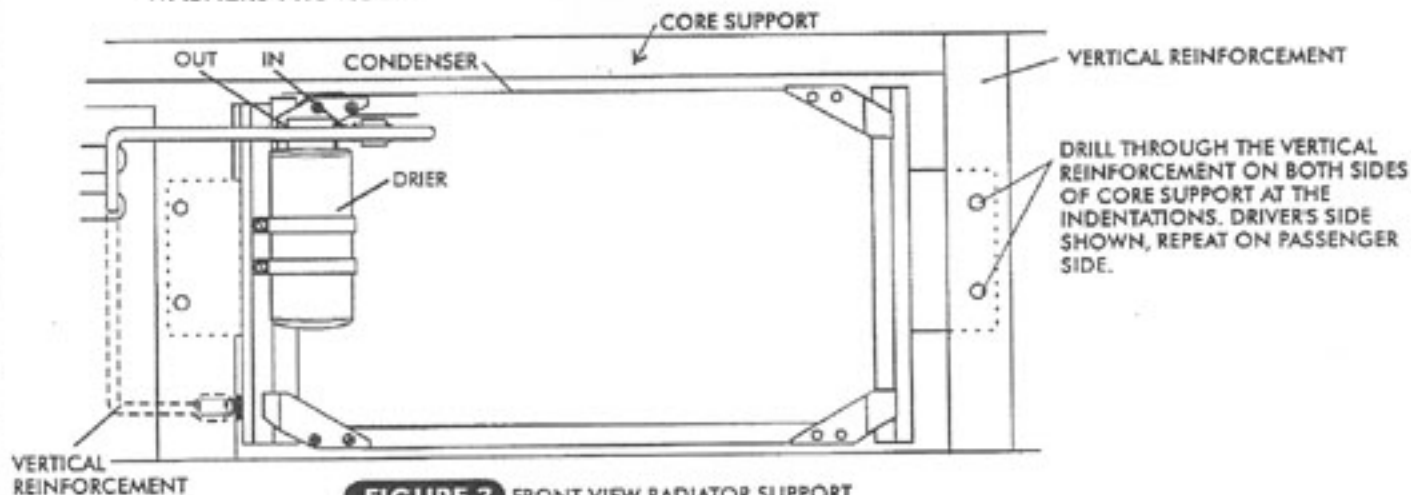

FIGURE 3 FRONT VIEW RADIATOR SUPPORT
- INSTALL THE CONDENSER ASSEMBLY INTO OPENING FROM RADIATOR (BACK) SIDE. CENTER CONDENSER IN OPENING AND TEMPORARILY CLAMP IN PLACE. CHECK FOR CLEARANCE AT THE POINTS WHERE THE CORE SUPPORT WAS TRIMMED. SEE FIGURE 3.
- LOCATE ON THE FRONT SIDE OF THE CORE SUPPORT IN THE VERTICAL REINFORCEMENT, TWO (2) SMALL INDENTATIONS APPROXIMATELY 1/4" IN DIAMETER. SEE FIGURE 3. DRILL FOUR (4) 5/16" DIAMETER HOLES AT THESE LOCATIONS AND ATTACH CONDENSER BRACKETS TO THE REAR OF THE CORE SUPPORT WITH FOUR (4) 1/4" x 20 x 1/2" BOLTS, NUTS AND WASHERS PROVIDED.